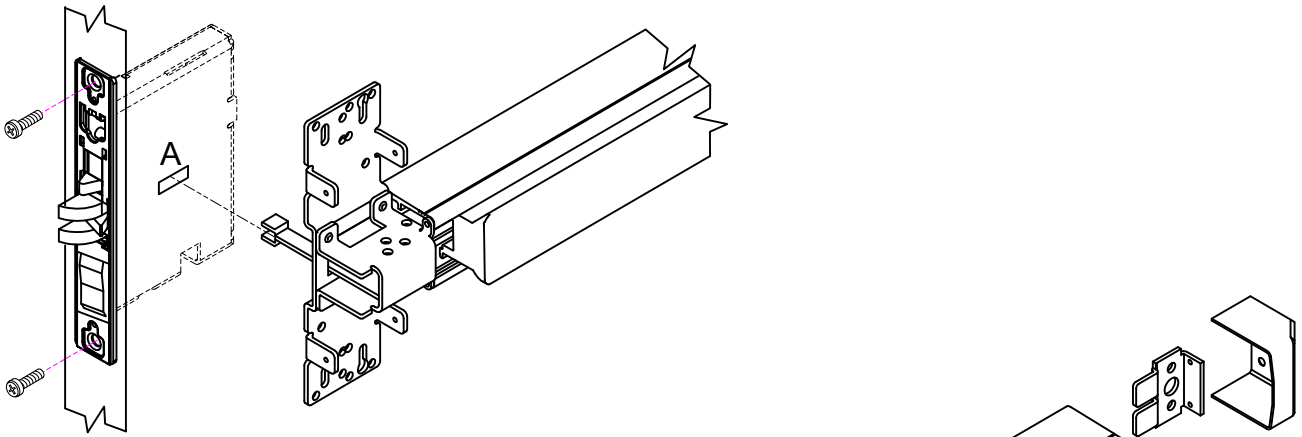
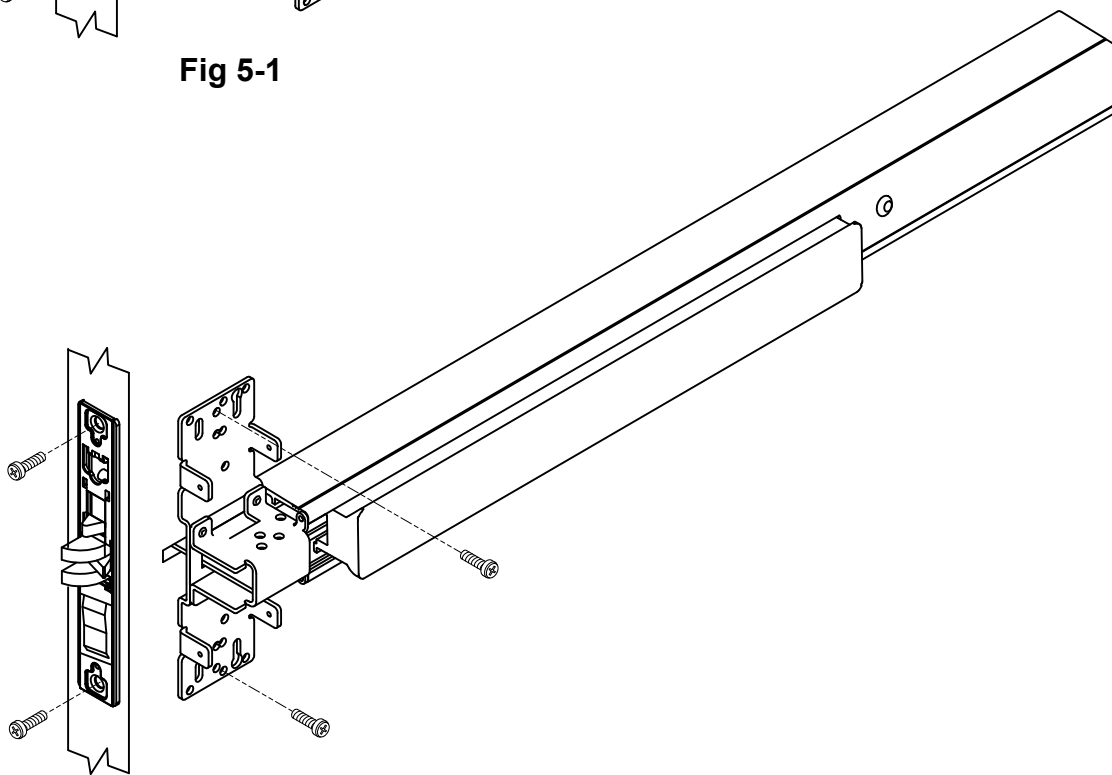

Fig 5-1
Fig 5-2
2. Insert the Pull Finger beneath device chassis into the "A" hole in lock case (Fig 5-1) then mount device horizontally to the drilled position with 6 supplied screws to door (Fig 5-2).